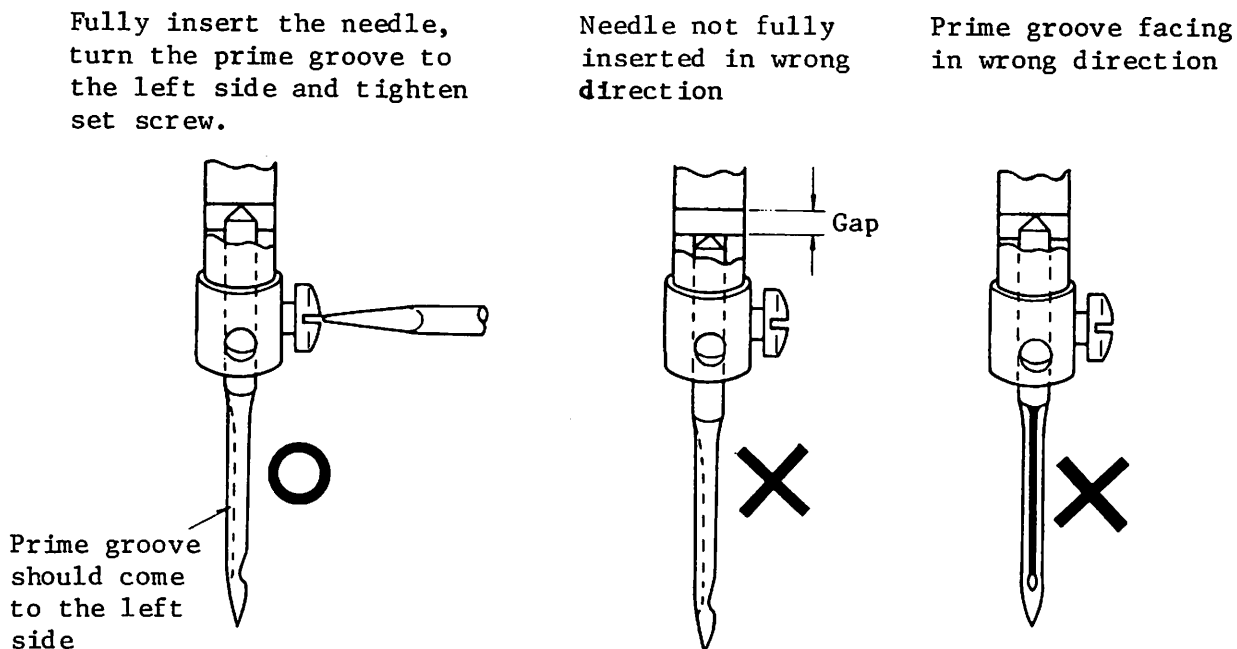

Fig. 9.1
9.1 Installation of needle (Fig. 9.1)